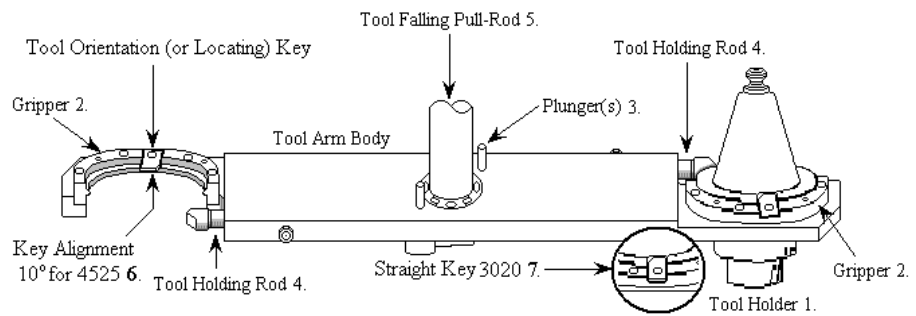

Figure 7-17: Pull Motor Brake Switch
22. If required, install the shims in groups of twos, one along the top row of the ATC mount bolts and one underneath the bottom row of mount bolts. See Figure 7-17, positions 4, 5, and 6.